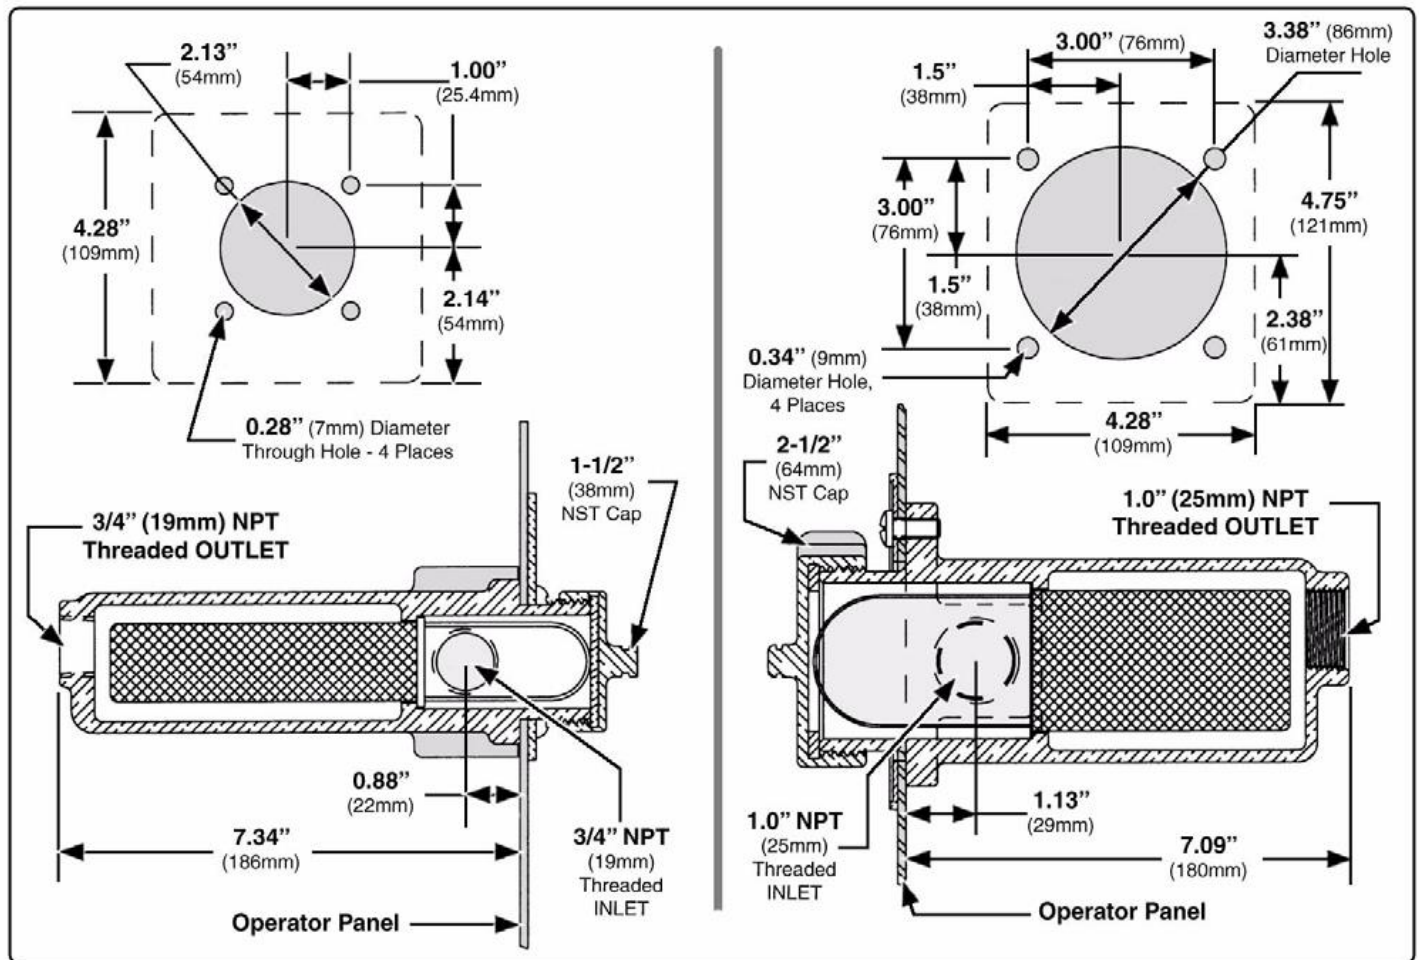

Figure 26: FS Strainer Mounting Dimensions
4. Mark holes for mounting the foam strainer by using the nameplate as a guide, or see Figure 26: **FS Strainer Mounting Dimensions**.